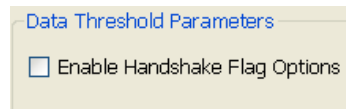
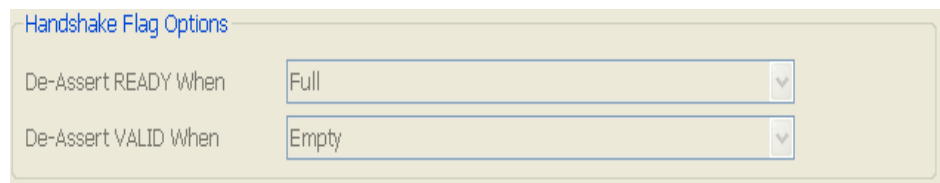

Figure 8-15: AXI4-Stream Interface FIFO: Page 4 - Data Threshold Parameters
Figure 8-16: AXI4-Stream Interface FIFO: Page 4 - Programmable Flag Options
- The programmable flags (Programmable Full and Programmable Empty) are mapped to TVALID and TREADY depending on the Enable Handshake Flag Options and Handshake Flag Options selection on Page 4 of the AXI4-Stream FIFO GUI, as shown in Figure 8-15 and Figure 8-16.